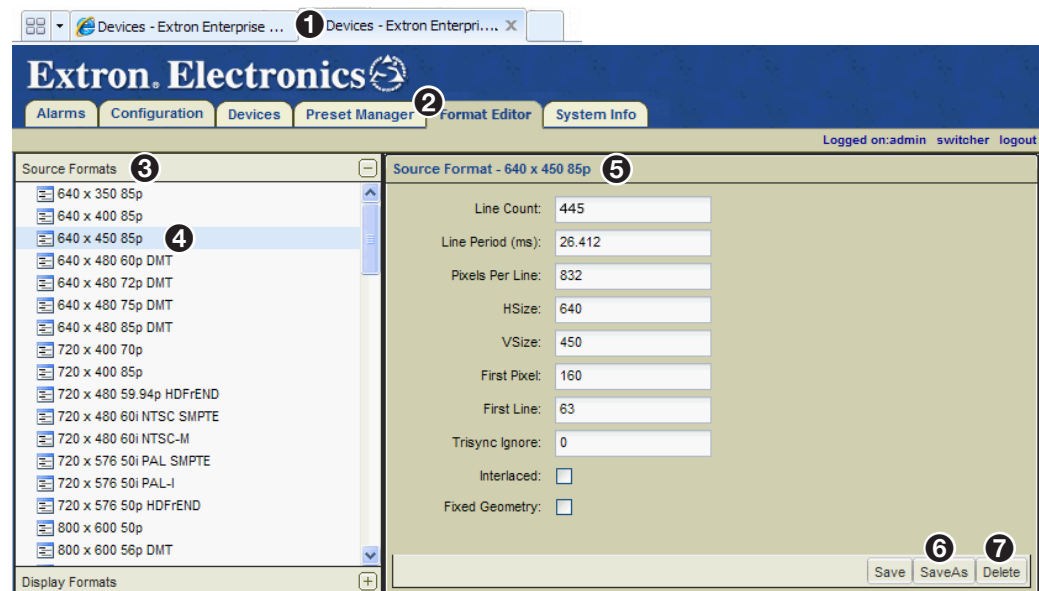

Figure 152. Source Resolution Properties
To delete a custom resolution format, select a resolution and click **Delete** located at the lower right corner of the **Format Editor** page (see figure 152, ⑦ below).
1. Click the **right tab**, (see figure 152, ①).
2. Click the **Format Editor** tab (②).
Click **SaveAs** in the lower right corner (see figure 152, ⑥ on page 152), to save the resolution to the list with a new name. For additional information on creating source formats, see Creating a New Source Format \(Input Mode\) on page 135.